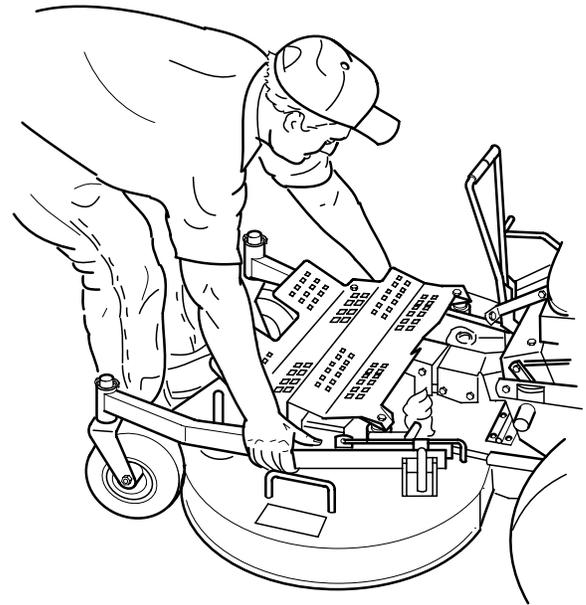

Figure 4-17 Removing The Deck
6. Pull the deck from the tractor as shown in Figure 4-17.